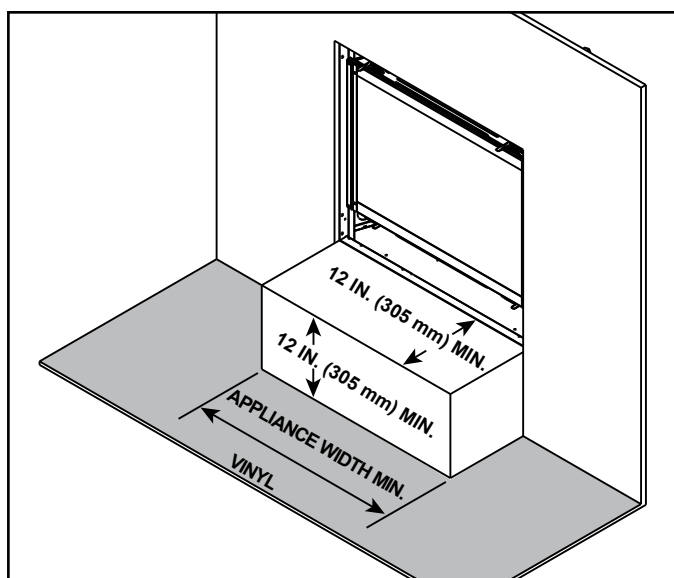

Figure 8.9 Vinyl Flooring Recommendations
- Vinyl Adhesive flooring is acceptable in front of the appliance when the appliance is raised off the floor 12 inches (305 mm) or more. See Figure 8.9.
Vinyl flooring is sensitive to heat. To avoid damage to the vinyl flooring, a 12 inch minimum x 12 inch minimum hearth is recommended when using vinyl flooring up to the wall. See Figure 8.9. If no hearth is used, it is recommended to provide a minimum of 24 inches of clearance in front of the appliance to the vinyl flooring OR the bottom of the appliance should be raised a minimum of 24 inches off of the floor to allow the vinyl flooring to be installed up to the wall.